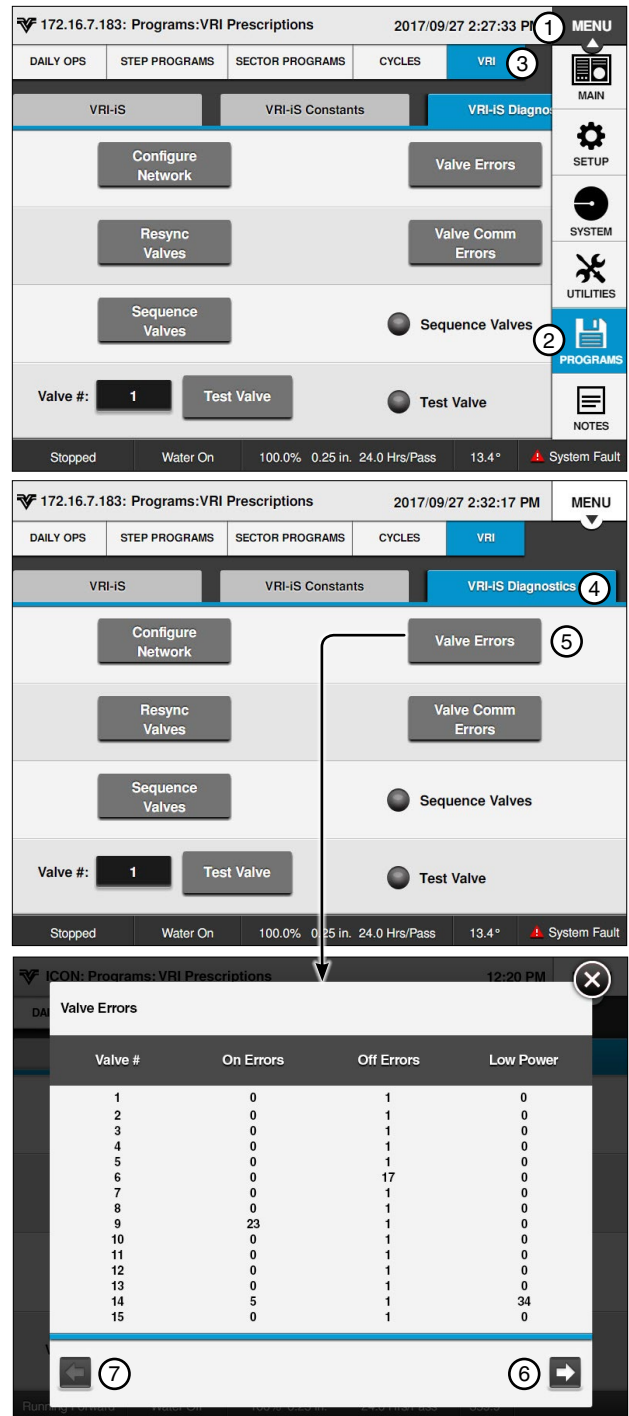

Figure 179-1 1. Menu
1. Push **Menu**, **Programs**, **VRI** and **VRI-iS Diagnostics** to display the VRI-iS diagnostics screen. Refer to Figure 179-1.